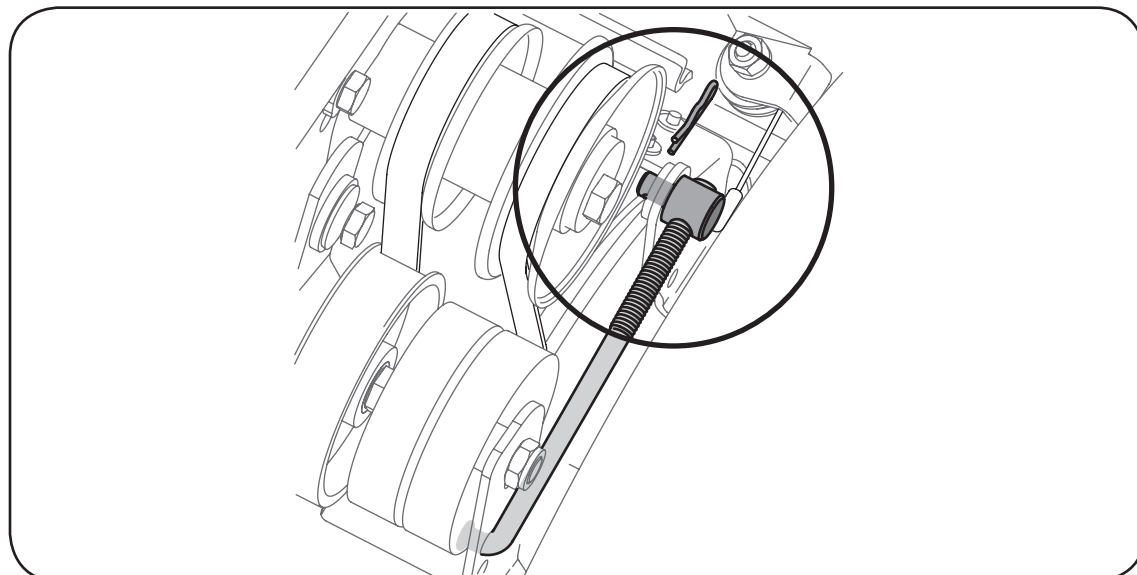

Figure 6-8
4. Remove the hairpin clip and flat washer from the ferrule in order to disconnect the auger idler rod from the brake bracket assembly. See Figure 6-8.